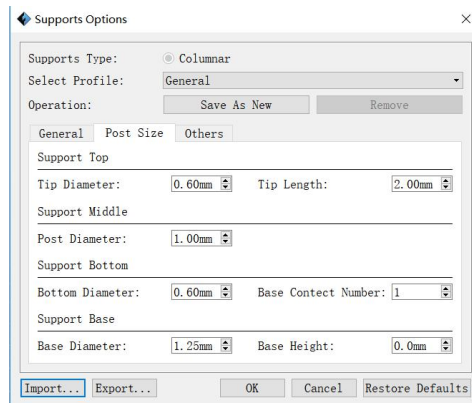

Figure 11 Pillar size interface
B.Post size setting:As shown in Figure 11.